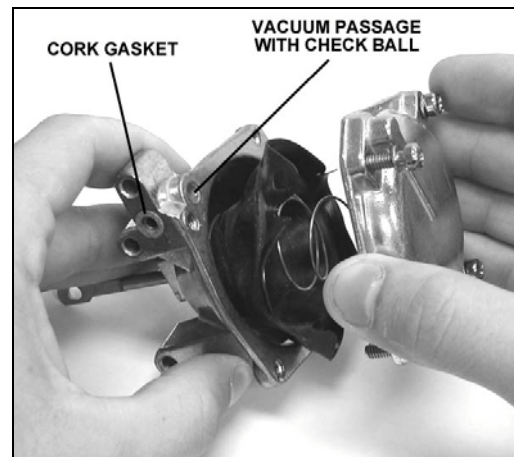

Figure 15
5. Gently remove the cover. Take care as not to tear the diaphragm or loose the check ball (Figure 15).